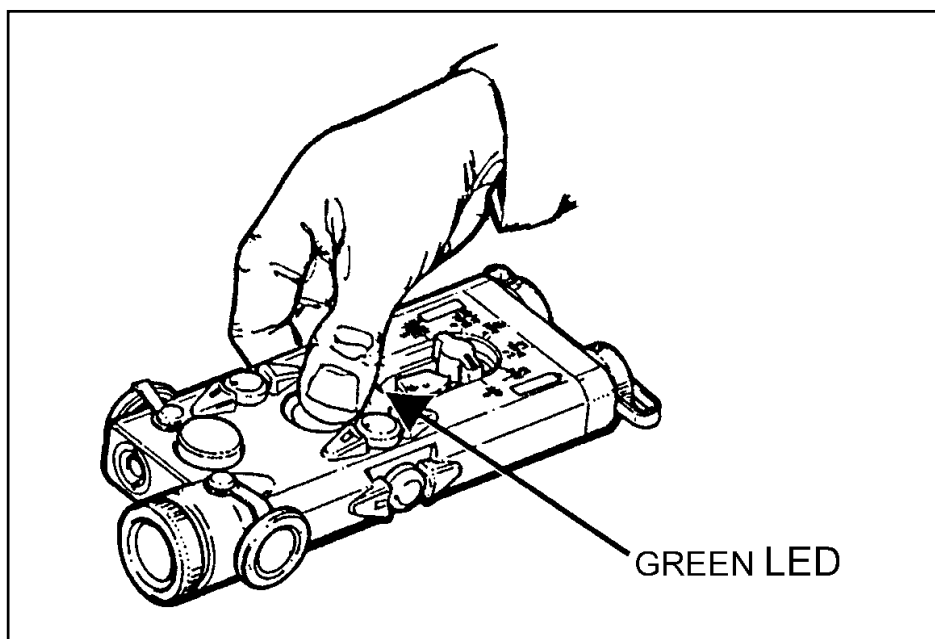

Figure F-9. Operation of the button switch.
(4) **Button Switch** (Figure F-9). The button switch is used when the AN/PEQ-2A is hand held. Pressing the button switch operates the AN/PEQ-2A in the operational mode set by the mode selector. When the button is released, the AN/PEQ-2A turns off.